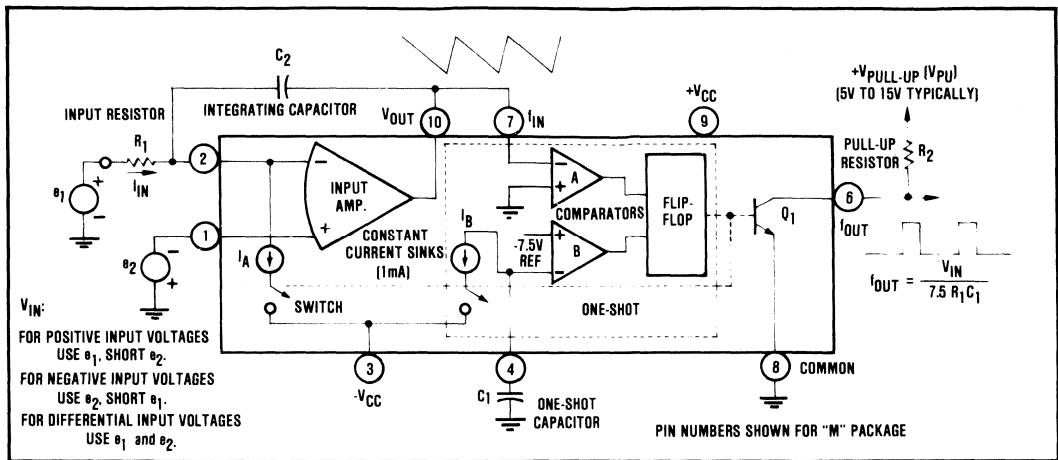
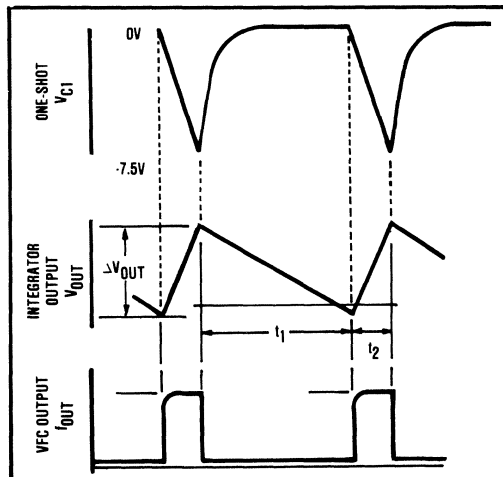

FIGURE 4. Functional Block Diagram of the VFC320.
FIGURE 5. Integrator and VFC Output Timing.
The VFC320 monolithic voltage-to-frequency converter provides a digital pulse train output whose repetition rate is directly proportional to the analog input voltage. The circuit shown in Figure 4 is composed of an input amplifier, two comparators and a flip-flop (forming a one-shot), two switched current sinks, and an open collector output transistor stage. Essentially the input amplifier acts as an integrator that produces a two-part ramp. The first part is a function of the input voltage, and the second part is dependent on the input voltage and current sink. When a positive input voltage is applied at V_{IN} , a current will flow through the input resistor, causing the voltage at V_{OUT} to ramp down toward zero, according to $dV/dt = V_{IN}/R_1C_1$. During this time the constant current sink is disabled by the switch. Note, this period is only dependent on V_{IN} and the integrating components.
the circuit shown in Figure 4. Detailed waveforms are shown in Figure 5.
In general the design sequence consists of: (1) choosing f_{MAX} , (2) choosing the duty cycle at full scale ($D_{FS} = 0.25$ typically), (3) determining the input resistor, R_1 (Figure 4), (4) calculating the one-shot capacitor, C_1 , and (5) selecting the integrator capacitor C_2 .